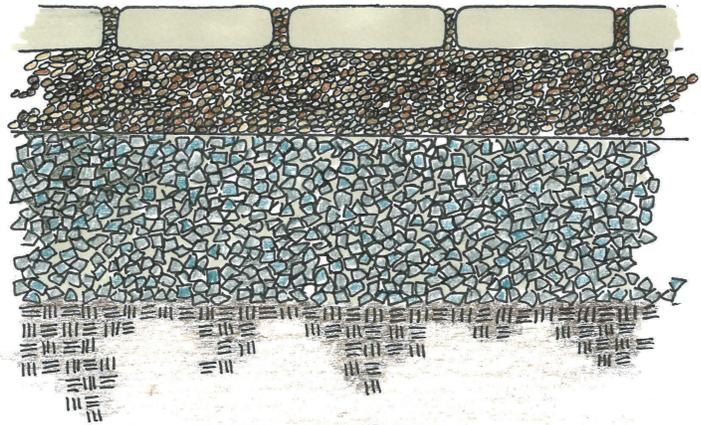

Figure 1. Pervious walkway profile.
- Sub-base materials (Figure 1) are the gravel and pea stone layers that go under the pavers. These materials provides a reservoir for stormwater before it soaks into the ground underneath. You should have a minimum depth of 12" of 1½" diameter crushed stone and 6" of ¾" pea stone for your sub-base. Use the following equations to determine the amount of sub-base materials you will need (multiplying by 0.037 converts cubic feet to cubic yards):